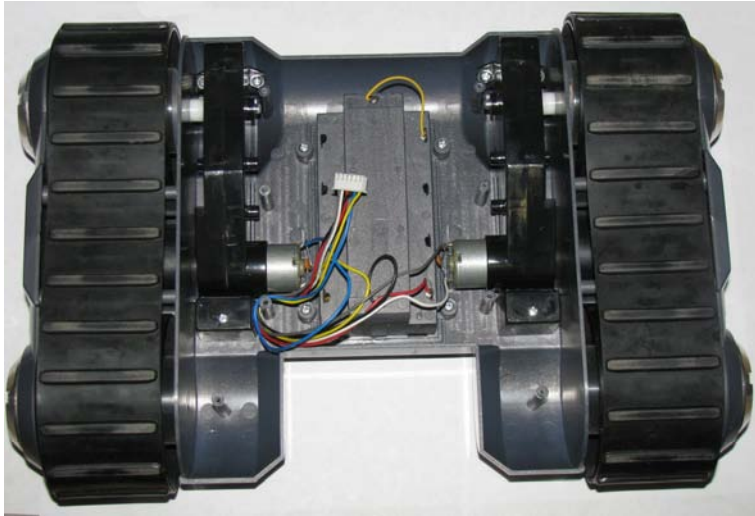

Figure 5-10. Here you can see the underside of the frame base, including both drive motors attached into the black gear boxes and the wiring harness.
As you can see in Figure 5-10, using perf-board looks a bit messy because there are several wires running on the top of the board, but if each connection is soldered properly, it will work just as well as an etched PCB.
1. *Strip frame down to motors and base.* If salvaging an old toy, you can remove all of the **electronics** because you will build your own motor-controller and the Arduino will provide the control signals. All that is needed, is access to the terminal wires of each motor. In Figure 5-10, the battery compartment is in the center of the base and a 6-pin plug is used to connect both motors and the power supply wires to the main board.